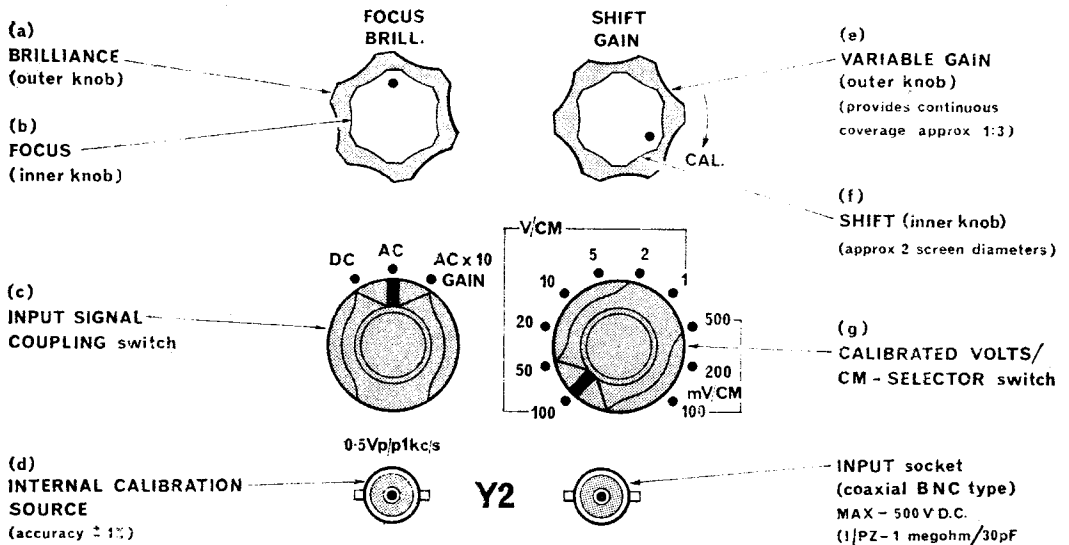

Fig. 3. Vertical amplifier controls CT436
5. Vertical amplifiers. The selector panels for the Y1 (upper trace) and Y2 (lower trace) vertical deflection amplifiers are usually fitted with identical controls. Figure 3 shows the Y2 selector panel layout of the CT436 oscilloscope.